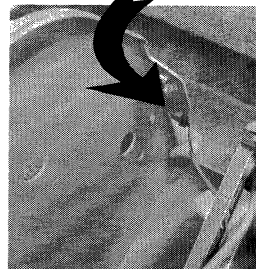

Fig. 6
- g. Reconnect sensor lead (Fig. 6).